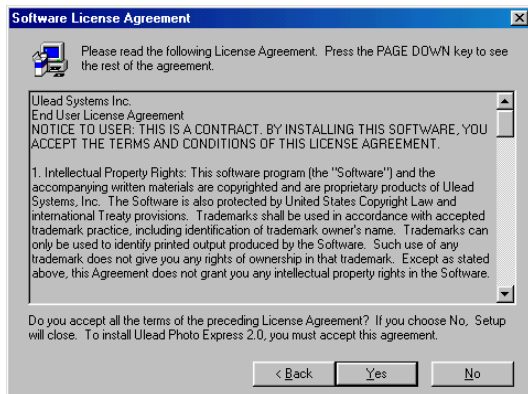

Figure 12: Licence agreement
6. Click on 'Next'. The window with the license agreement will appear (Figure 12).
7. Click on 'Yes' to accept the license agreement (Figure 12) and continue with the installation.